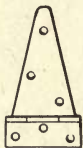

FIG. 83.—HINGE FOR FARMER'S LEVEL.
6. **Locating and boring screw holes for hinges.** — The hinges should be of the pattern indicated in Fig. 83. The strap leaf should extend along the leg, and the other leaf should be fastened to the tripod head. It is better not to fasten the hinges to the legs until the screw holes have been bored in the tripod head.